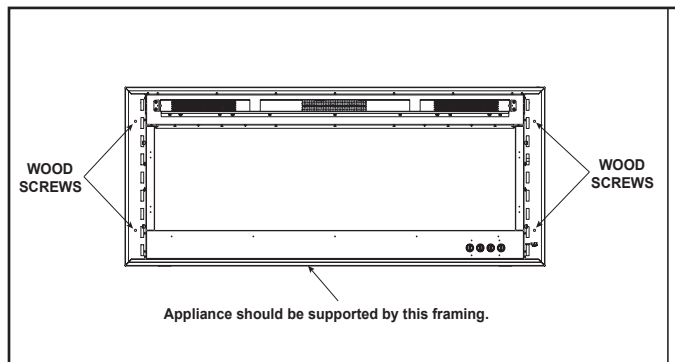

Figure 12 Appliance Installation
Install the appliance into the opening. Level the appliance. Ensure that it is centered left to right then fasten it directly to the framing with two (2) ST4X25 wood screws in both the left and right sides of the trim skirt. See Figure 12.